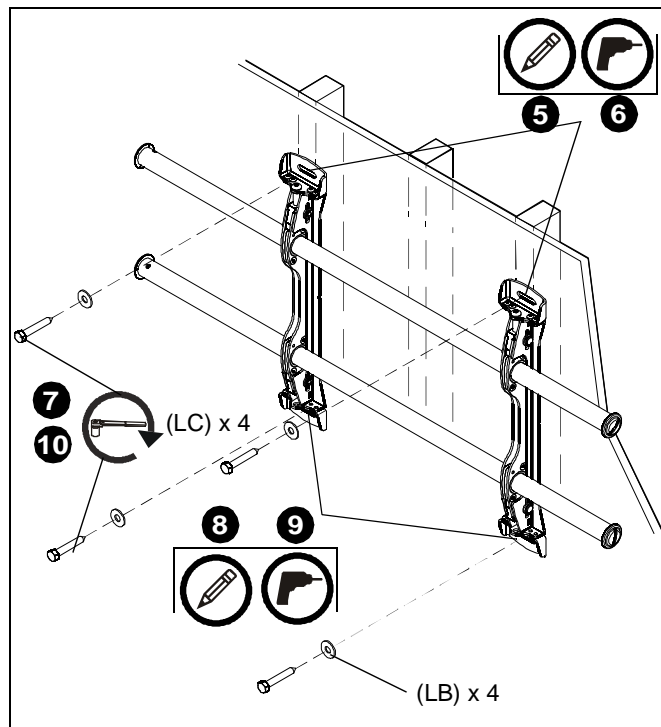

Figure 2
5. Using a level, mark the wall on each stud to attach the mount through the upper mounting slots. (See Figure 2)
7. Use two 5/16 x 2-1/2" lag bolts (LC) and two 5/16" flat washers (LB) to attach top of mount to wall. (See Figure 2)
8. Mark the attachment points for the lower mounting slots, making sure the attachment points are located on the studs. (See Figure 2)
9. Drill 7/32" pilot holes at markings for lower mounting holes. (See Figure 2)
10. Use two 5/16 x 2-1/2" lag bolts (LC) and two 5/16" flat washers (LB) to attach the mount to the wall through the lower mounting holes. (See Figure 2)